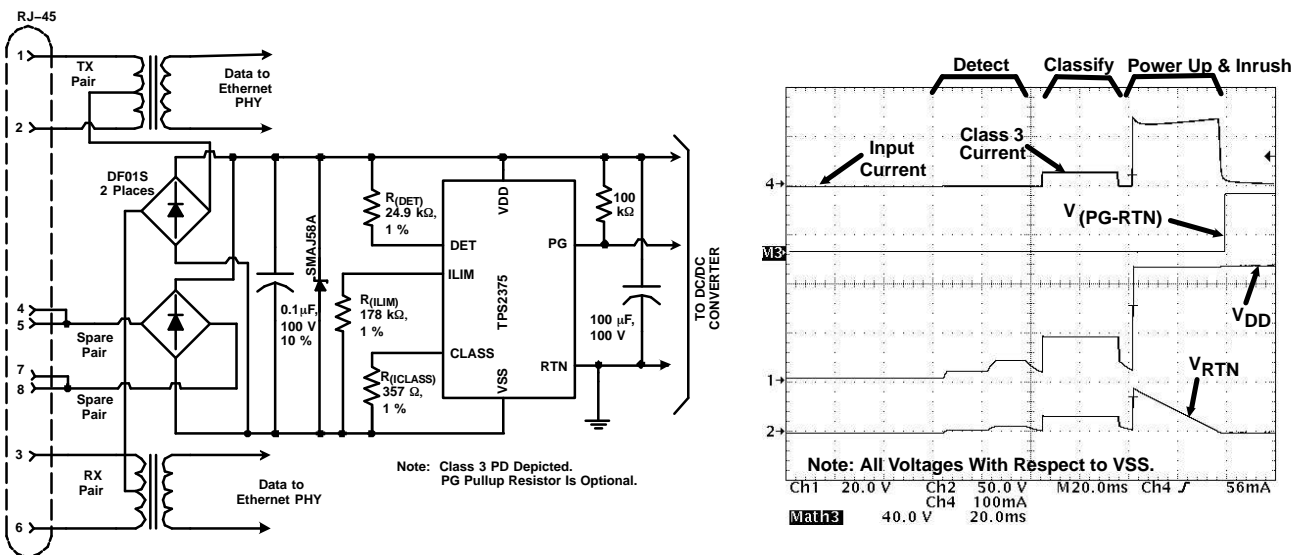

Figure 1. Typical Application Circuit and Startup Waveforms
(1) Stresses beyond those listed under “absolute maximum ratings” may cause permanent damage to the device. These are stress ratings only, and functional operation of the device at these or any other conditions beyond those indicated under “recommended operating conditions” is not implied. Exposure to absolute-maximum-rated conditions for extended periods may affect device reliability.
(2) I_(RTN) = 0
(3) SOA limited to V_(RTN) = 80 V and I_(RTN) = 515 mA.
(4) Surges applied to RJ-45 of Figure 1 between pins of RJ-45, and between pins and output voltage rails per EN61000-4-2, 1999.